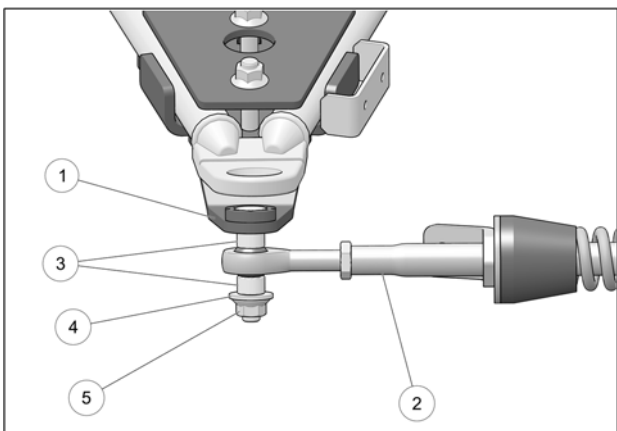

Fig. 19
8. Attach the stabilizing rod (2) to the anchor bracket (1), using the two spacer bushings (3), flat washer (4) and nut (5). Torque to 70 N•m [52 lb•ft]. Refer to Fig. 19